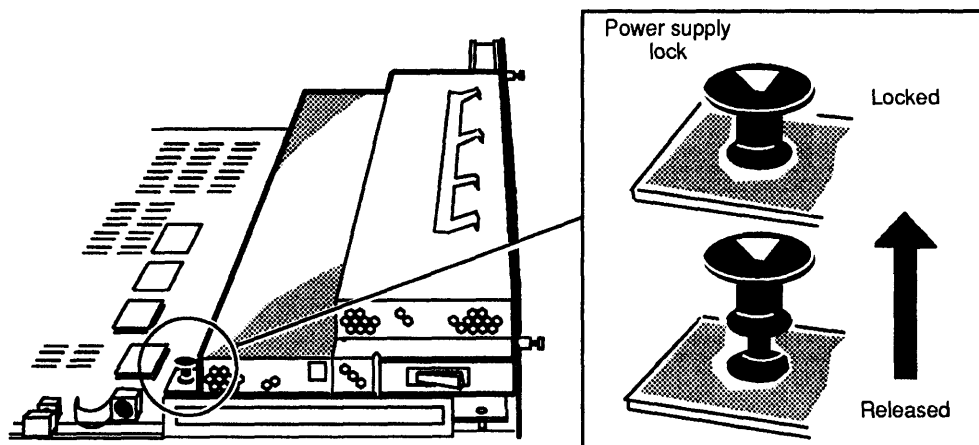

Figure 4-28 Releasing the Power Supply Lock
3. Release the power supply lock by gently pulling it up, as shown in Figure 4-28.